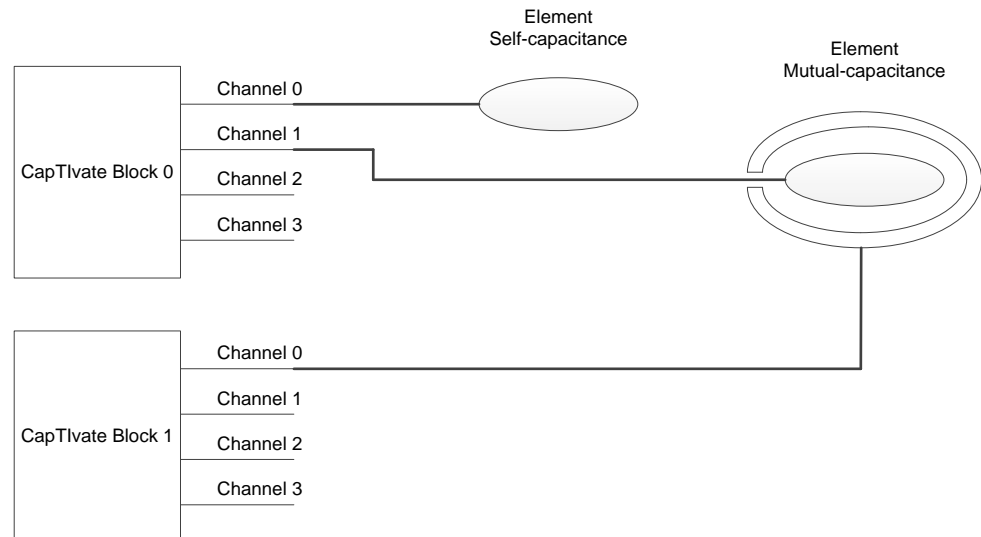

Figure 10-3. Element Definition
- Element (Sensing Element)** An element refers to a touch instance (see Figure 10-3). This instance can be realized with a single channel in *self mode* or with two channels in *mutual mode*.